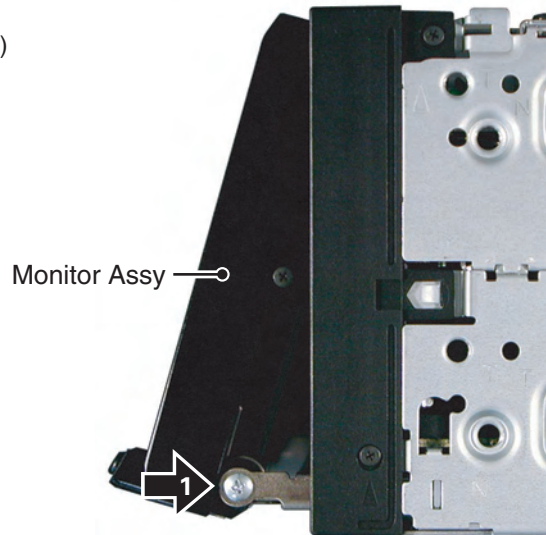

Fig.2
- 1** Remove the two screws. (Fig.2)